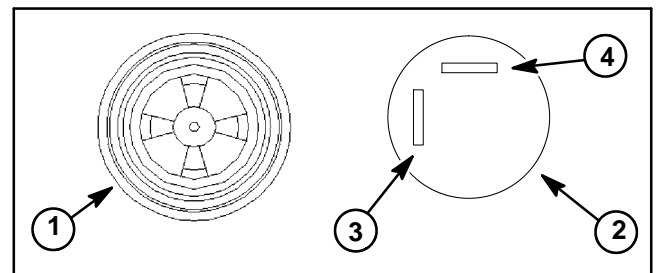

Figure 7
5. Correctly connect 12VDC source to the beeper terminals (Fig. 7).